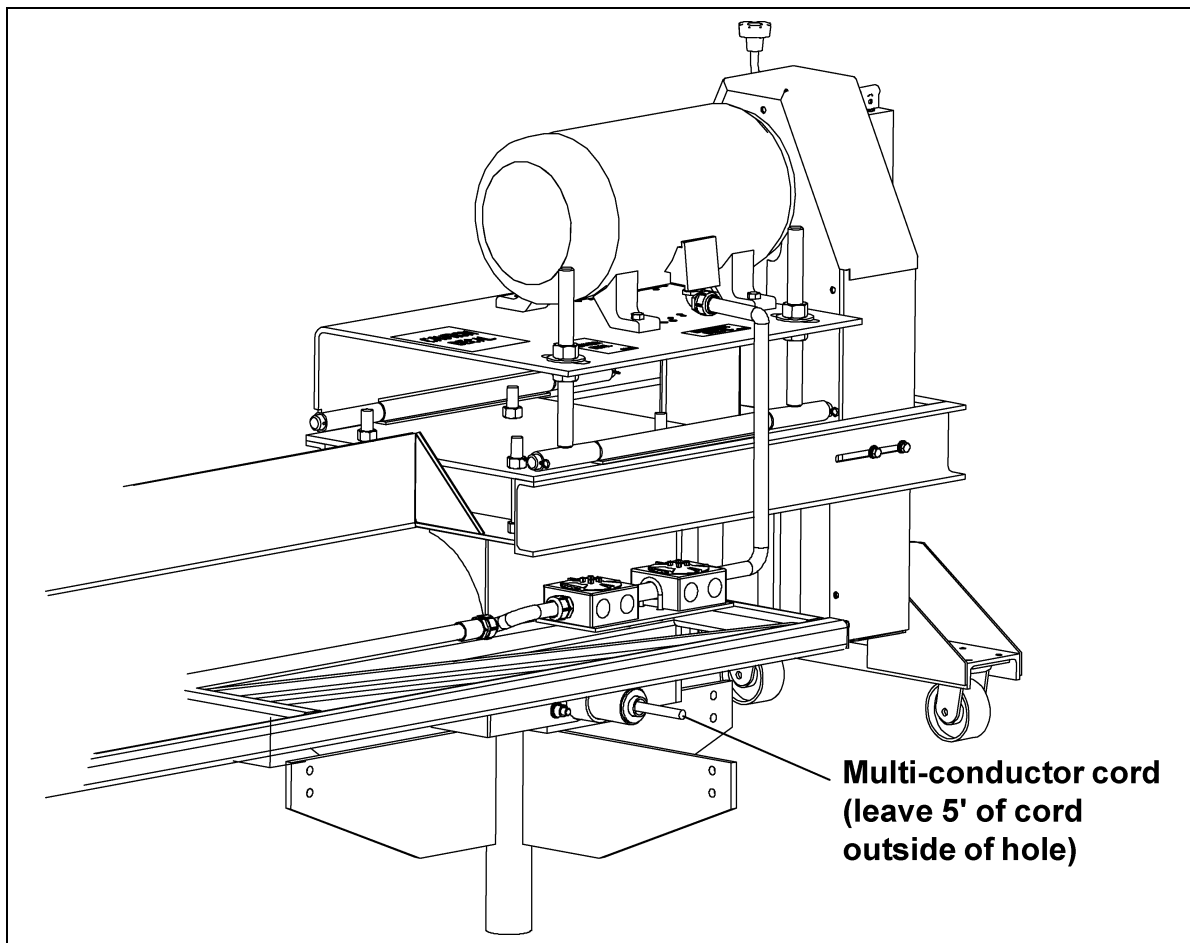

Figure 5AJ
2. Feed the multi-conductor cord through the hole in the back of the sweep head section leaving five feet (5') of cord outside the hole. (See Figure 5AJ.)
3. Feed the power cord through the pivot tube. (See Figure 5AK on Page 53.)